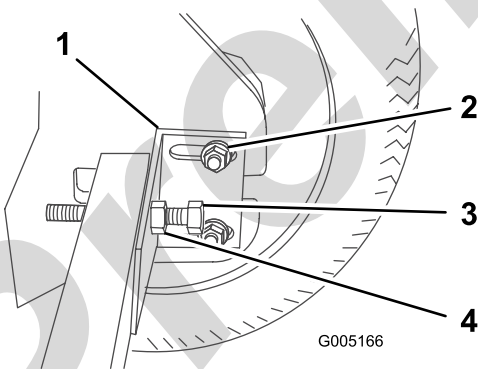

Figure 34
3. Loosen the nuts securing the axle retaining bracket (Figure 34).
4. Loosen the nut on the chain tensioning bolt and loosen the bolt (Figure 34).
to secure it in place (Figure 34) and torque the nut to 30 ft-lb (40.7 N·m).